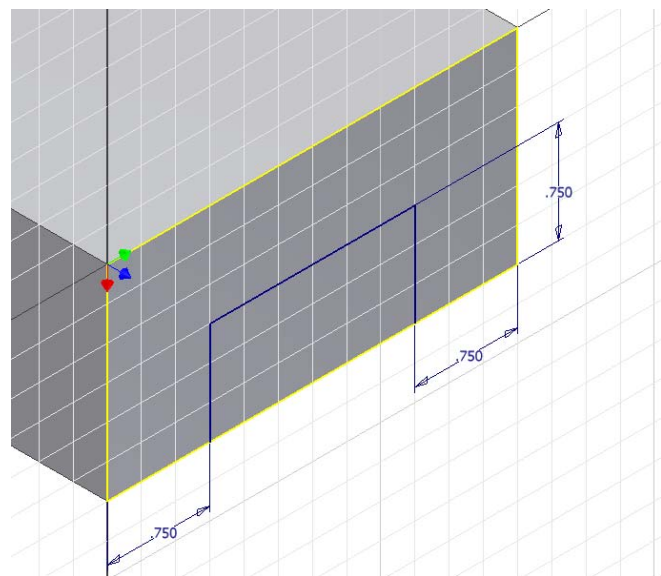

Figure Step 14A
**Step 14** Draw three lines for the slot. Apply all of the necessary geometrical and dimensional constraints to fully constrain the sketch. (Figure Step 14A and 14B)